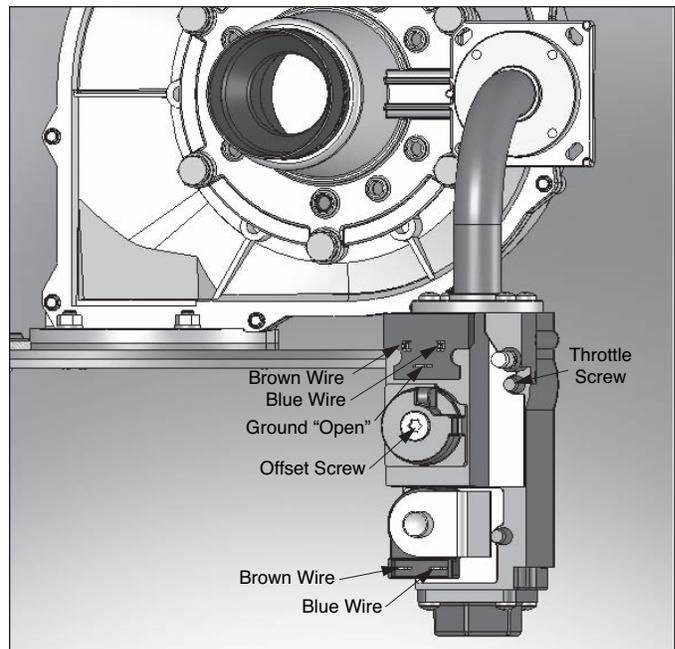

Fig. 3: Prestige 399 Gas Valve
15. Reconnect the wiring to the gas valve as shown in Fig. 3.
3. If the combustion levels during high fire are outside the recommended combustion settings adjust the THROTTLE SCREW (see Fig. 3) using a flat-blade screwdriver.